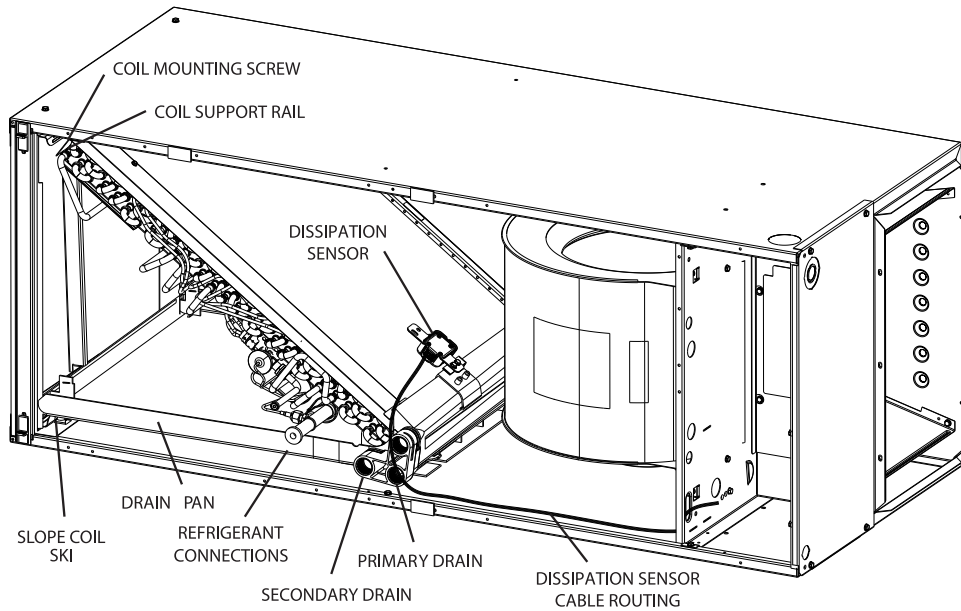

Fig. 7 – Slope Coil in Horizontal-Right Application
1. Remove blower and coil access panels and fitting panel (Fig. 7).
6. Lay fan coil on its right side and reinstall coil assembly with condensate pan down (Fig. 7).
8. Reconnect sensor wire harness by following routing shown (Fig. 7).